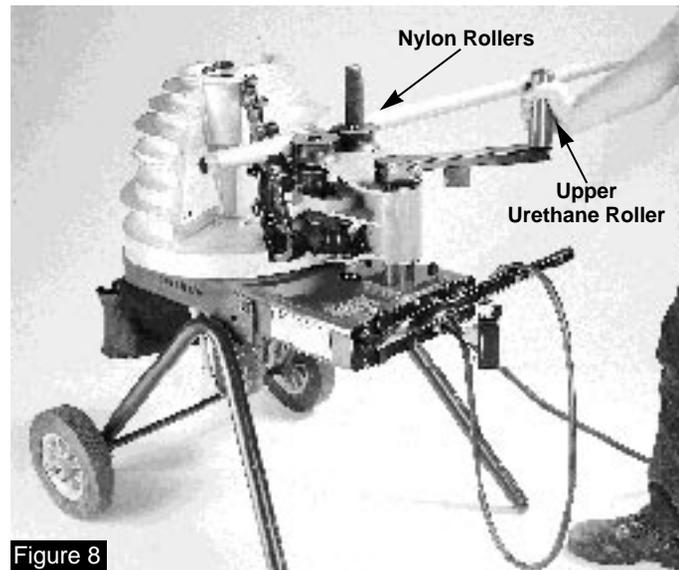

Figure 8
5. Grasp the upper urethane roller and move the support arm counterclockwise until it contacts the roller housing. The two nylon rollers should have moved against the conduit and should firmly hold the conduit in the shoe (figure 8).